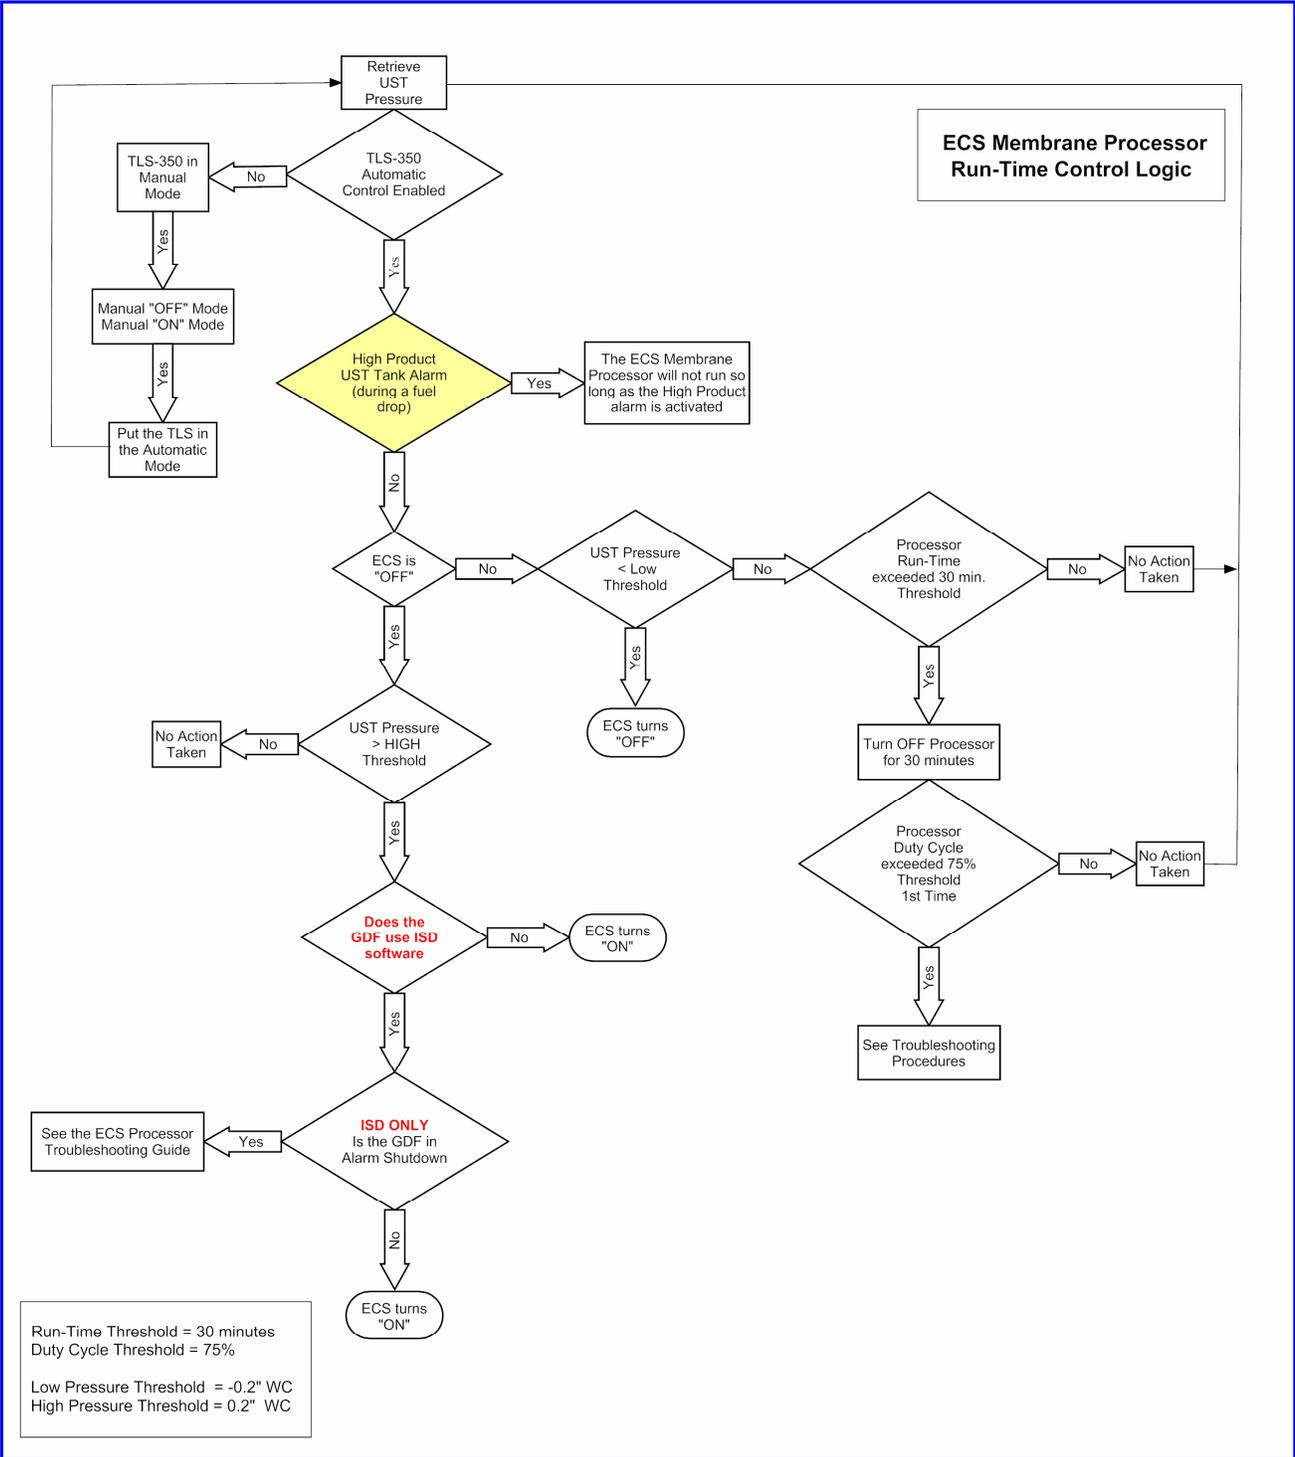

Figure 9: Processor Run-Time Algorithm
- The internal relay must be programmed as a **VST VAPOR PROCESSOR (VP)** through the TLS 350 relay setup menu.
- **Figure 9** shows the *Processor Run-Time* Algorithm.